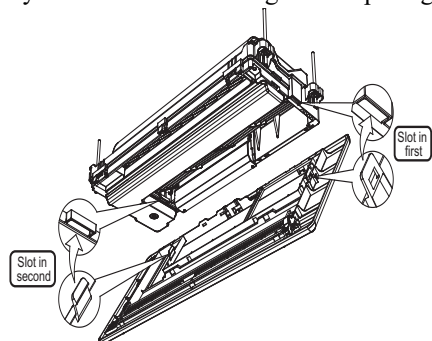

Fig. 18 —Installing the Panel
4. See Fig. 18 for “Installing Panel to Unit” instructions for 2 clips on the panel assembly. Be sure to keep louver and display wires accessible through filter opening.